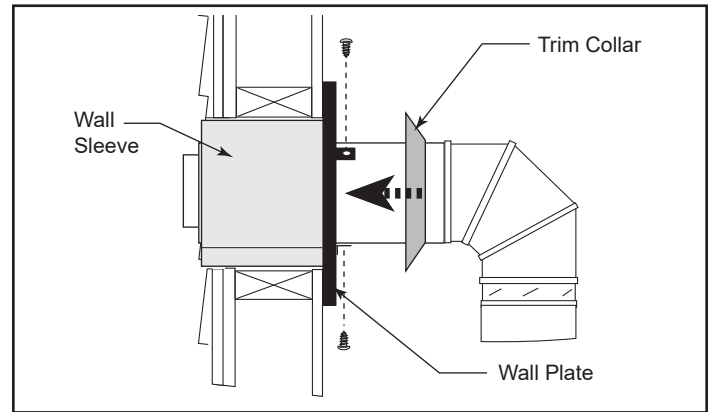

**Figure 24** - Determine the vertical pipe length.
4. **For Hearth & Home Technologies Vent Pipe only:** If necessary, measure to determine the vertical length (X) of pipe required from the adapter pipe to the wall cutout centerline, including a 2" (51mm) overlap at the joint. (Figure 24) use a hacksaw or tin snips to trim the pipe as needed.